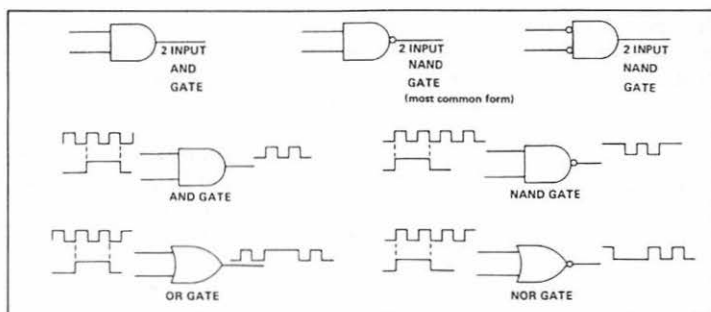

Fig. 4. Basic gates with their input/output waveforms.
*Nand* and *nor* differ from *and* and *or* in that inversion has taken place. Refer to Fig. 4. Note the small o at the input or output of some of the examples. This o indicates that inversion has taken place.